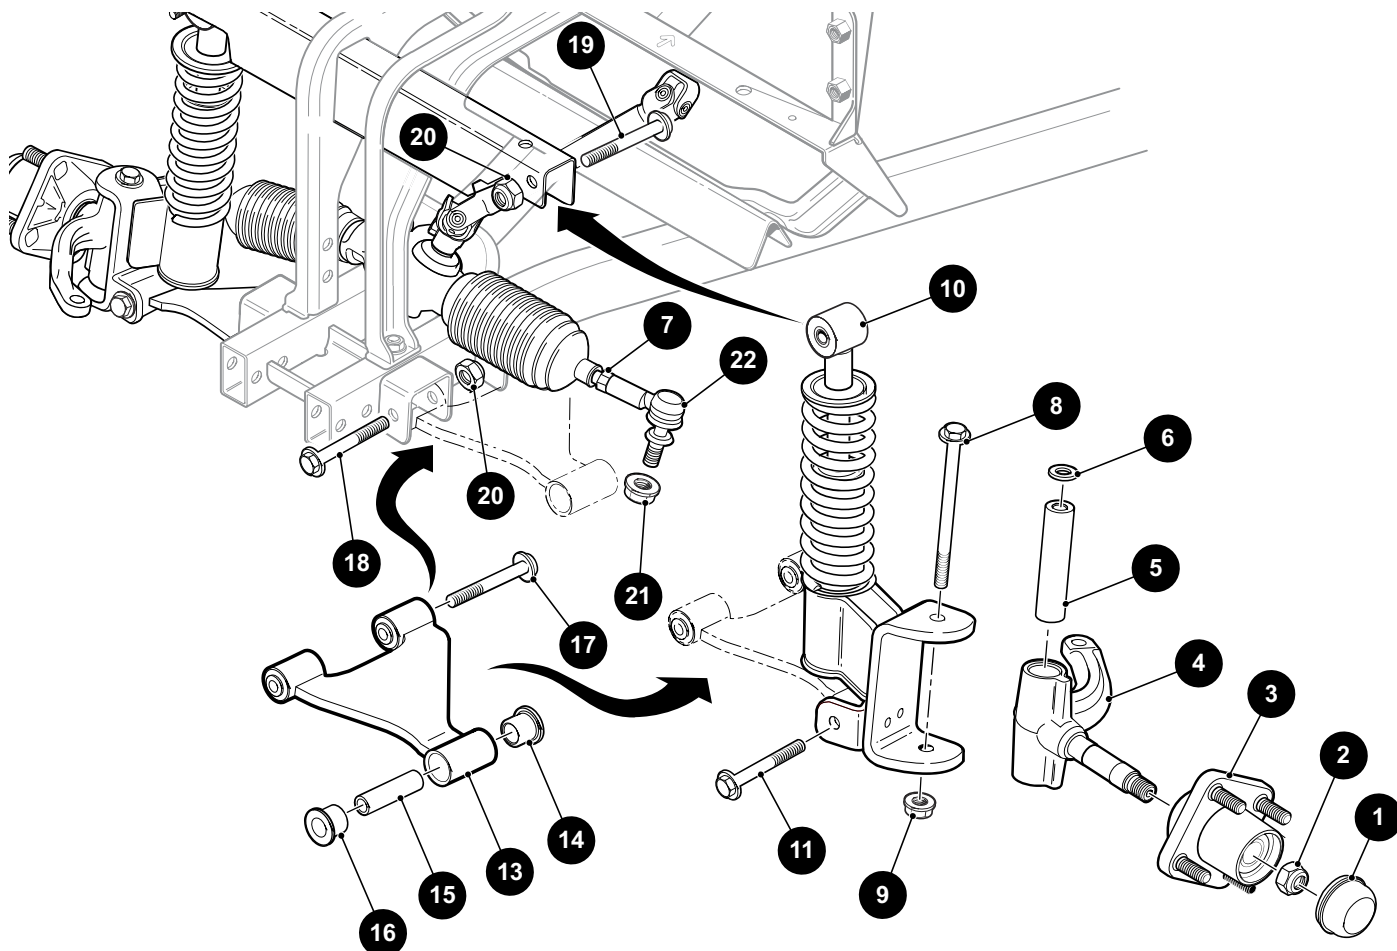

Figure 5 Hub, Spindle, Strut and Control Arm Assemblies
1. Remove the dust cap (1) by tapping around the cap flange using a flat blade screwdriver and a ball peen hammer (Figure 5).
2. Remove the lock nut (2).
3. Remove hub (3) by sliding it off of the spindle.
4. Clean spindle (4) thoroughly with solvent and inspect spindle threads. If threads are damaged, replace the spindle.
2. Loosen the nut (21) securing the tie rod end (22) to the spindle arm until it is flush with the end of the tie rod end (Figure 5).
4. Remove the nut (21) and the tie rod end (22) from the spindle arm.
5. Remove hex nut (9) and hex head bolt (8), remove the spindle assembly (4 and 5).
1. Remove the hex head bolt (11) securing the control arm (13) to the strut (10) (Figure 5).
2. Remove bushings (14,16) from control arm (13), retain sleeve (15).
3. Inspect the sleeve (15) for wear or pitting. Replace if sleeve (15) shows signs of wear or pitting.